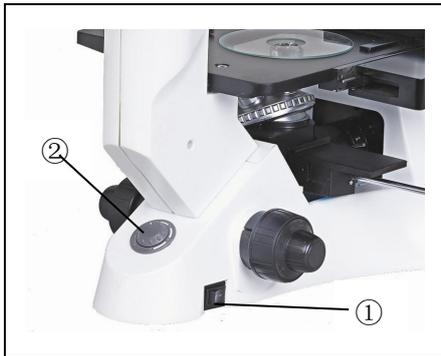

Fig 13
#### 3.2.1 Turn on power, adjusting brightness(Fig 13)
Connect the power, turn on the main switch① (shown on the Fig.13) which on the bottom side of the base to “ — ”(on). Turning the brightness adjustment knob clockwise②, the voltage raise, and the brightness strengthen; whereas turning at the contrary direction, the voltage decline, and the brightness weaken.